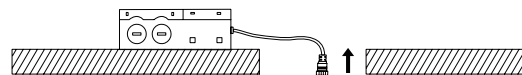

Figure 4
4. Push the spring-loaded clips into the mounting hole upwards and insert the fixture into it. Release the clips and the fixture will be pulled flush to the ceiling (see Fig 4).
2. Push spring loaded clips on the fixture upwards and insert fixture base in to the mounting hole. Release the clips and fixture will be pulled flush to the ceiling. (Figure 4)